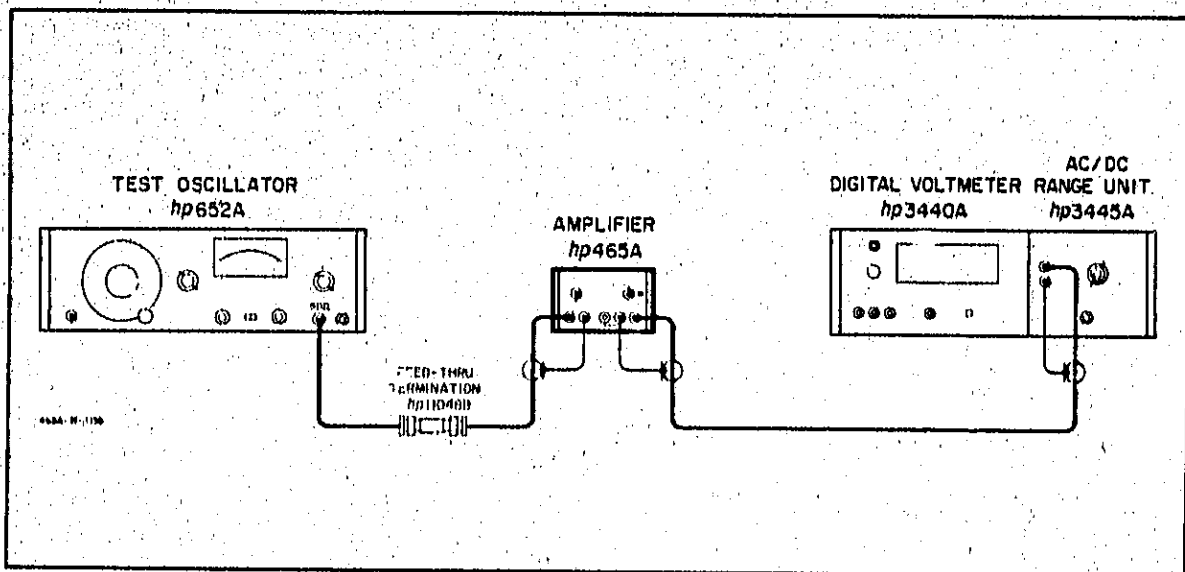

Figure 5-1. Frequency Response Check
- a. Figure 5-1 describes the recommended test arrangement. A Test Oscillator (-hp- Model 652A) and an AC Digital Voltmeter (-hp- Model 3440A/3445A) will be required for this check.
- a. Figure 5-1 describes the recommended test arrangement. The -hp- 3440A/3445A operates only between 50 Hz and 100 kHz so an additional AC Voltmeter (-hp- Model 331A) is recommended for the 10 Hz and 1 MHz checks.
- a. Use the test arrangement shown in Figure 5-1. Set the 465A GAIN to 20 dB.